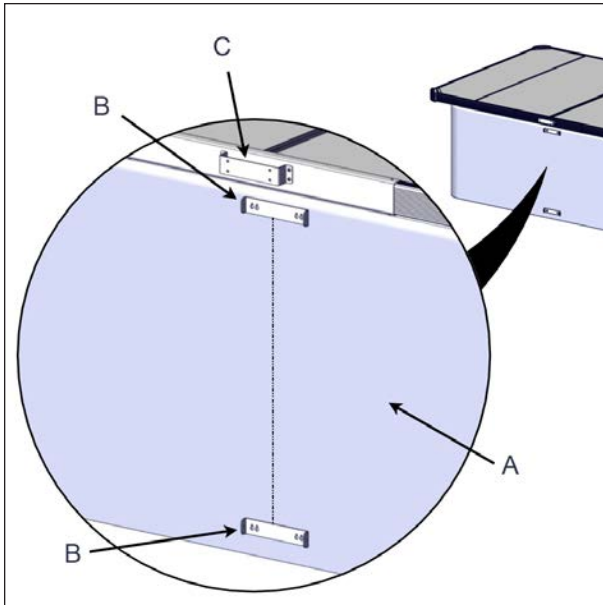

FIGURE 71: TUB MOUNT BRACKET INSTALLATION
7. Position the tub mount brackets with the previous marks, fasten it properly and securely to the spa frame (Figure 71). If the spa structure is over 50" (127 cm) high, install the extended tub mount bracket on the top